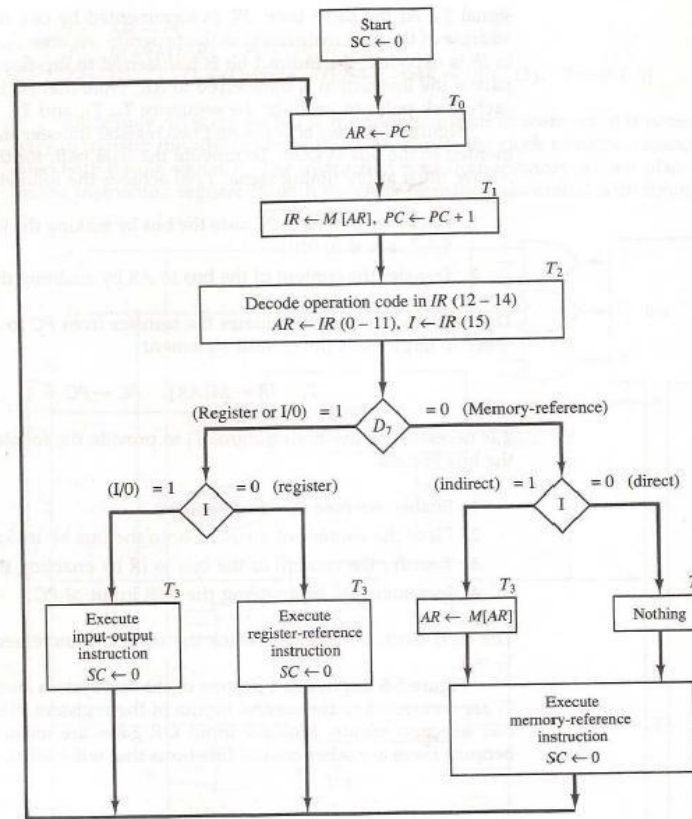

Figure 5-9 Flowchart for instruction cycle (initial configuration).
- The flowchart of fig. 5-9 shows the initial configurations for the instruction cycle and also how the control determines the instruction cycle type after the decoding.